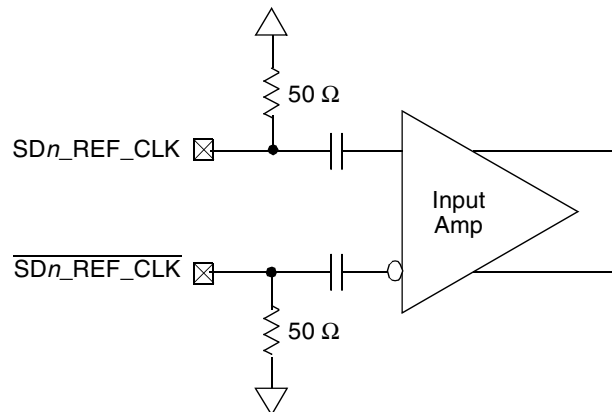

Figure 52. Receiver of SerDes Reference Clocks
Figure 52 shows a receiver reference diagram of the SerDes reference clocks.
- The $\overline{\text{SDn_REF_CLK}}$ and SDn_REF_CLK are internally AC-coupled differential inputs as shown in Figure 52. Each differential clock input ($\overline{\text{SDn_REF_CLK}}$ or SDn_REF_CLK) has a 50 Ω termination to SGND_SRDS_n (xcovss) followed by on-chip AC-coupling.